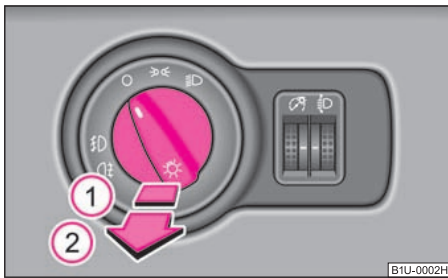

Fig. 46 Dash panel: Light switch
- First of all turn the light switch into position 030 or 031 ⇒ fig. 46.
- Pull the light switch into position ①.
- Pull the switch into position ②.